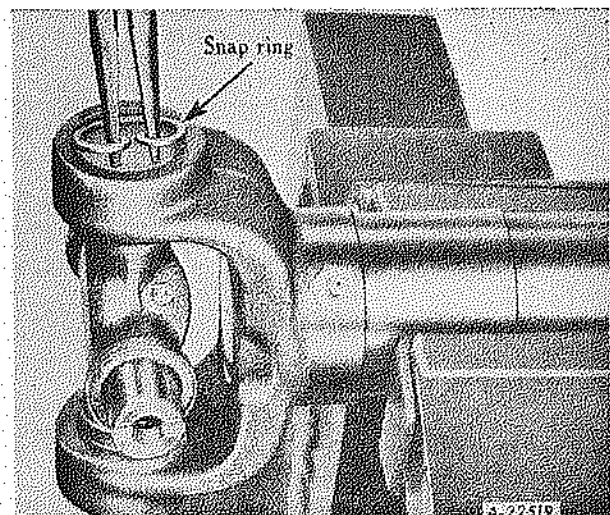

Fig. 4
- D. Remove snap ring from slip joint yoke. Turn joint over and remove opposite snap ring (Fig. 4).